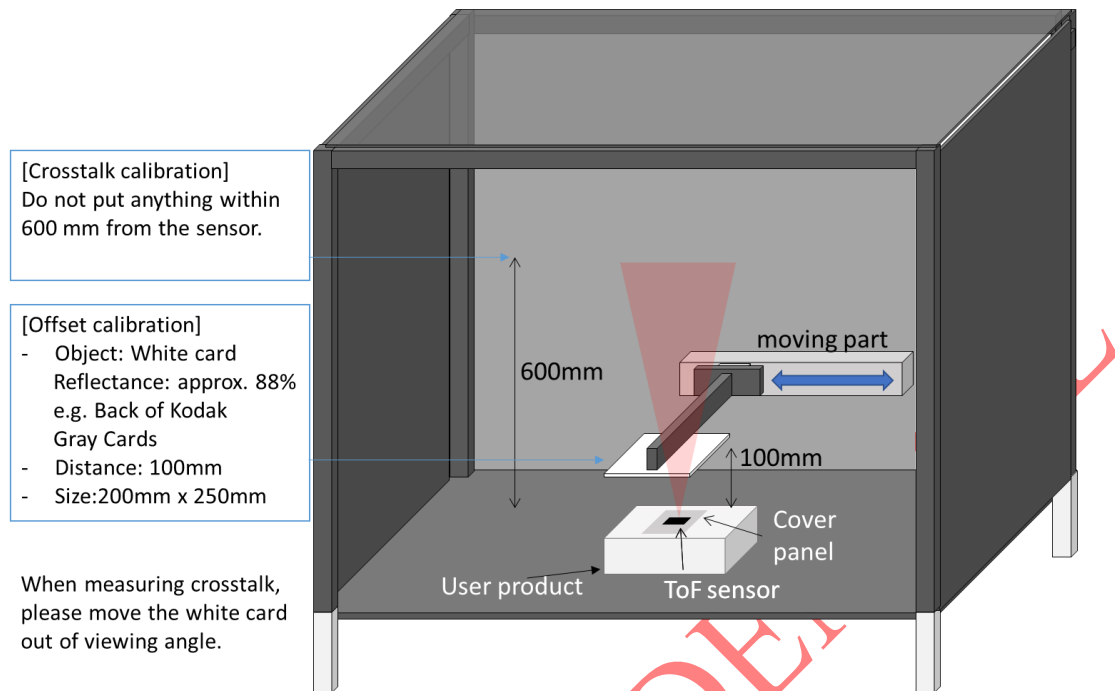

Fig.9 Calibration Environment at User Factory
Fig.9 shows the environment where the user's calibration is performed at the factory. Calibration should be performed in the absence of disturbance light. Please paste a light-absorbing sheet to prevent reflection of light from the wall. Room temperature should be from 20 ° to 25 °.
1. Please put white paper at 100 mm from the sensor in an environment where disturbance light does not enter as shown in Fig.9.